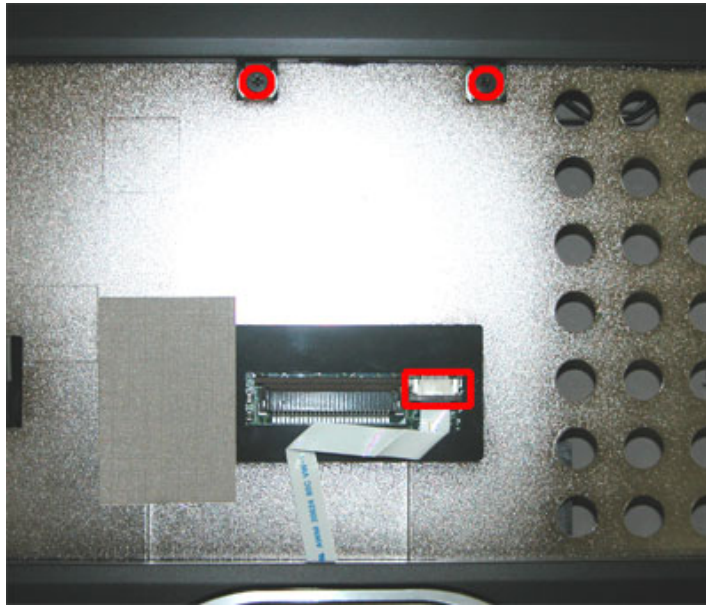

Fig. 19 Disconnect Touch Pad Flat Cable
3. Flip over the unit and remove the screws then disconnect touch pad flat cable as shown in Fig. 19